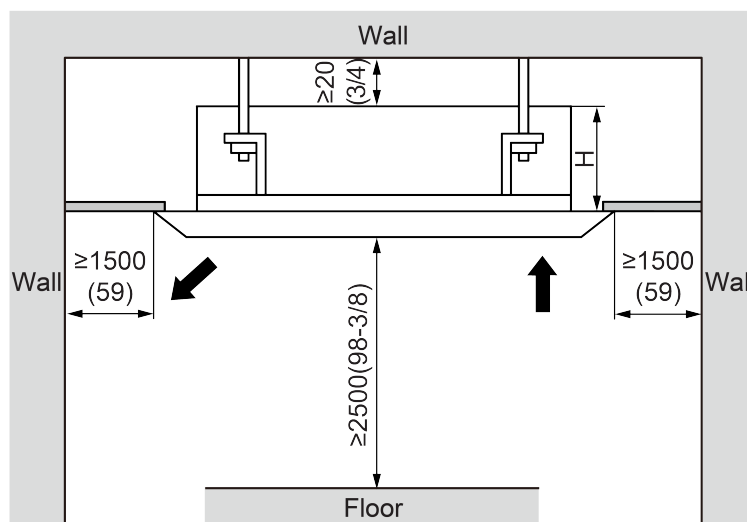

Fig.3.2.1
- (1) The appliance shall not be installed in the laundry.
- (2) The location should be able to withstand the weight of unit.
- (3) The water can be drained conveniently from drainage pipe.
- (4) There should be no obstruction near air inlet and air outlet.
- (5) Follow the installation distance required in the Fig.3.2.1 below to ensure sufficient space for maintenance.
- (6) The installation location should be far from heat sources, flammable or explosive gas, or smog spread in the air.
- (7) The indoor unit, outdoor unit, power cord and connection electricity wire should be at least 1m from television and radio in order to prevent interference and noise (Even though 1m distance is ensure, there may be noise if the electric wave is too strong.).
- (8) This indoor unit may be installed on ceilings up to 2.5m(98-3/8inch) to avoid accidental touching.